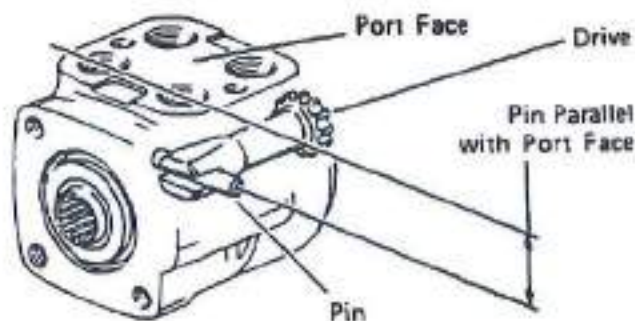
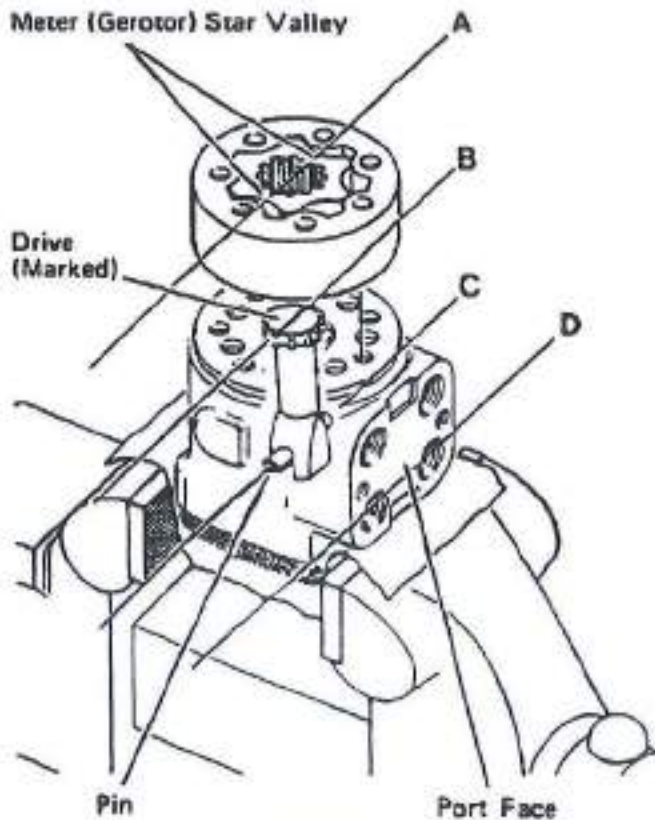

Figure 22
Figure 24
21. Rotate spool and sleeve assembly until pin is parallel with port face, see Fig. 22. Install drive, make sure you engage drive with pin. To assure proper alignment, mark drive as shown in Fig. 24 (ref. B). Note relationship between slotted end of drive to splined end of drive when marking.
23. With seal side of meter toward spacer plate, align star valleys (ref. A) on drive (ref. B). Note the parallel relationship of reference lines A, B, C, and D - Fig. 24. Align bolt holes without disengaging meter from drive.